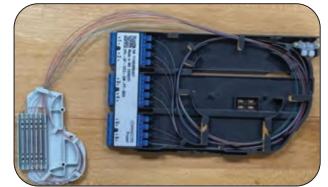

Figure 15
15. Route pigtail and feeder fibers counterclockwise starting along the outer walls and working toward the center of the cassette. **(Figure 15)**